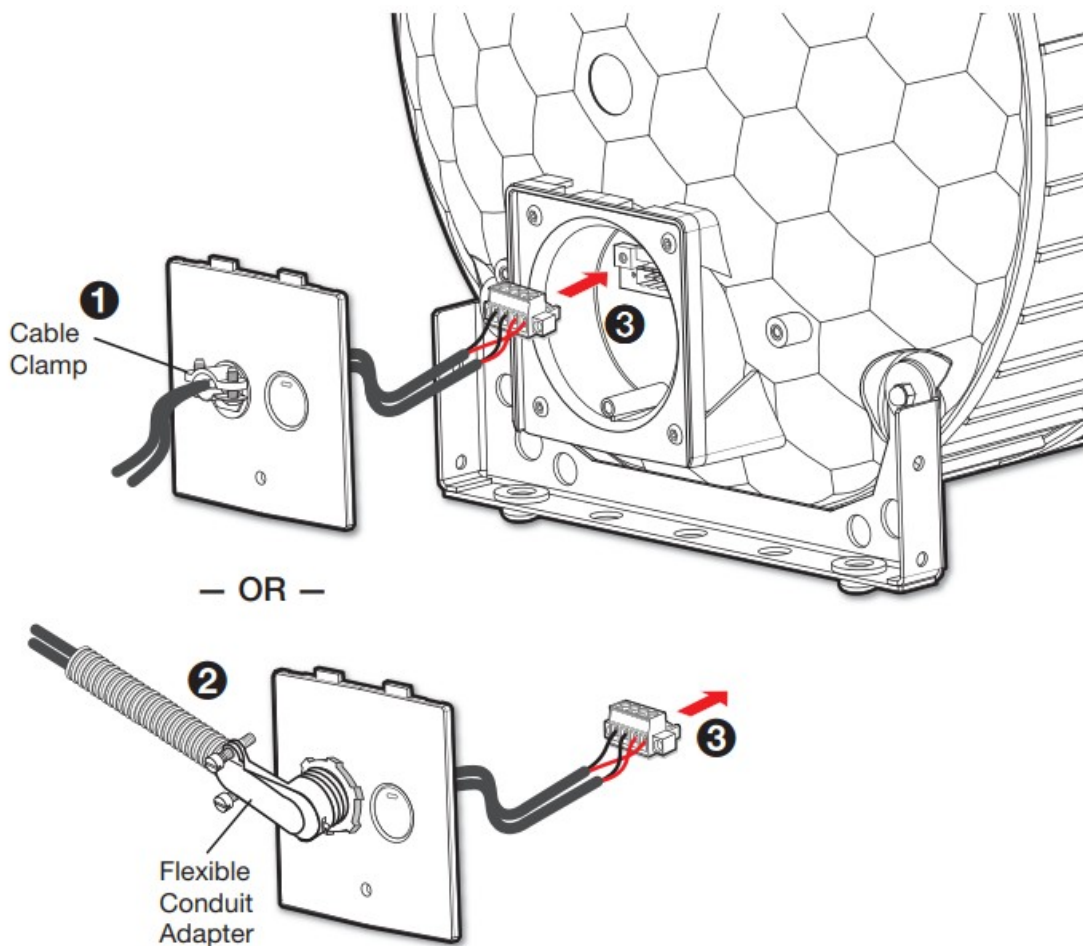

Figure 1. Connection Using a Cable Clamp or Flexible Conduit
- When not using flexible conduit: Route the speaker wires through the cable clamp (see figure 1,1).
- When using flexible conduit: Remove the cable clamp and install the flexible conduit into the plate opening. Secure the flexible conduit to the plate with the locking nut and pull the speaker wires from the flexible conduit (2).
5. Insert the captive screw plug into the four-pole receptacle of the subwoofer (see figure 1,3 , on the previous page).